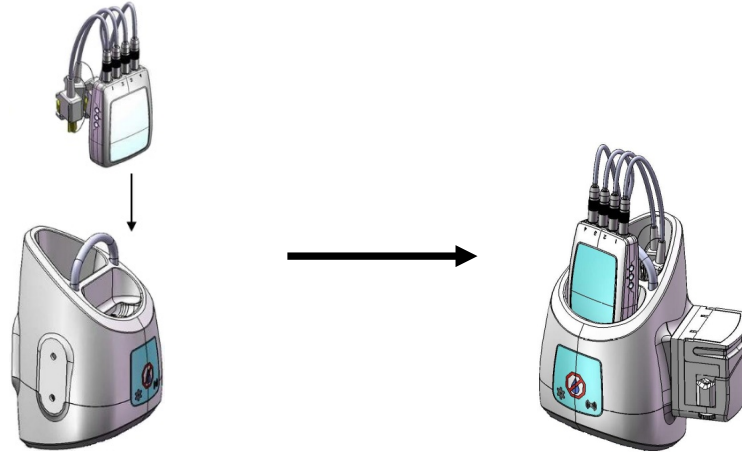

Figure 5: Connecting the UDS Roam to the Goby™ Hub
- Place the UDS Roam cartridge into the **Goby™** Hub and make sure the connector at the bottom of the UDS Roam cartridge clicks securely into place into the **Goby™** Hub (Figure 5).